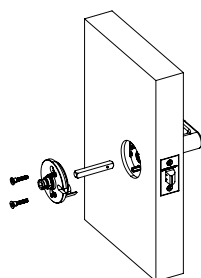

Figure 9
- Insert the inside spindle into the spindle hub, then install inside mounting plate assembly using (2) 8-32UNCx1" screws to fix outside assembly. (Figure 9)